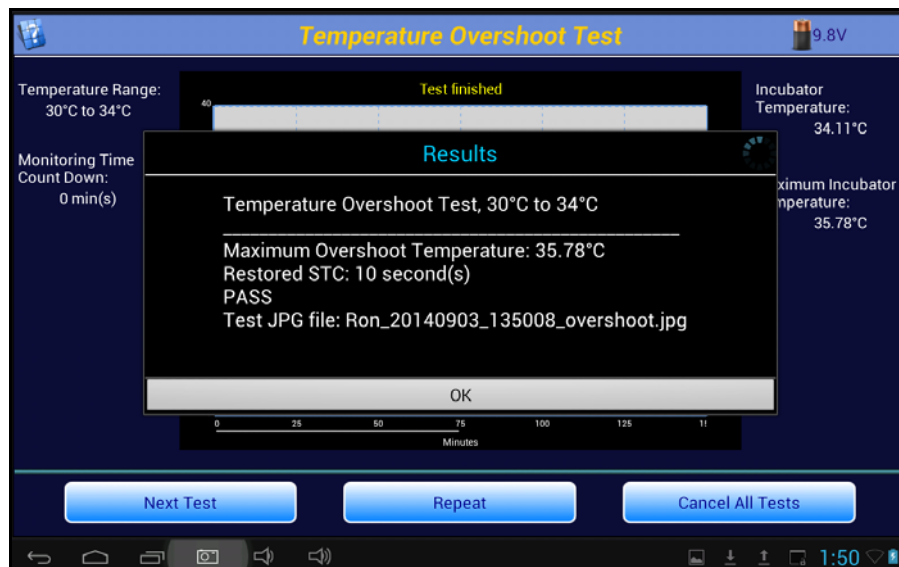

Figure 82: Temperature Overshoot Test Results
vPad-IN monitors the **Average Incubator Temperature (IT)** and checks to see that the **Incubator Temperature** does not differ from **IT** by more than 0.5°C. vPad-IN will display the length of time **STC** has been true using dashed green lines on the display. If this **STC** measurement is true within 15 minutes of first reaching 34 °C, the incubator passes the test requirements. The **Results** will be shown in the dialog box as shown in **Figure 82, Figure 83**.